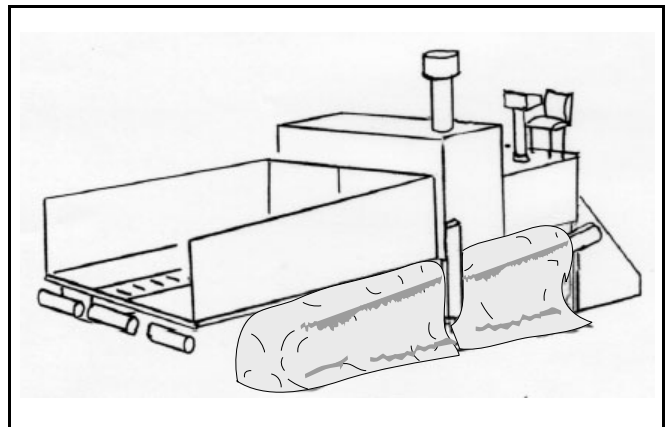

Figure 3 - 54 Cover Track for Outdoor Storage
- **Covering track for long term outdoor storage.** Rubber is affected by exposure to sunlight (ozone). Covering the track with something like a vinyl sheet if the machine is idle for an extended length of time, such as over Winter, will help keep the surface in good condition. (Figure 3 - 54) This is especially true where the rubber is bent and stretched around wheels.